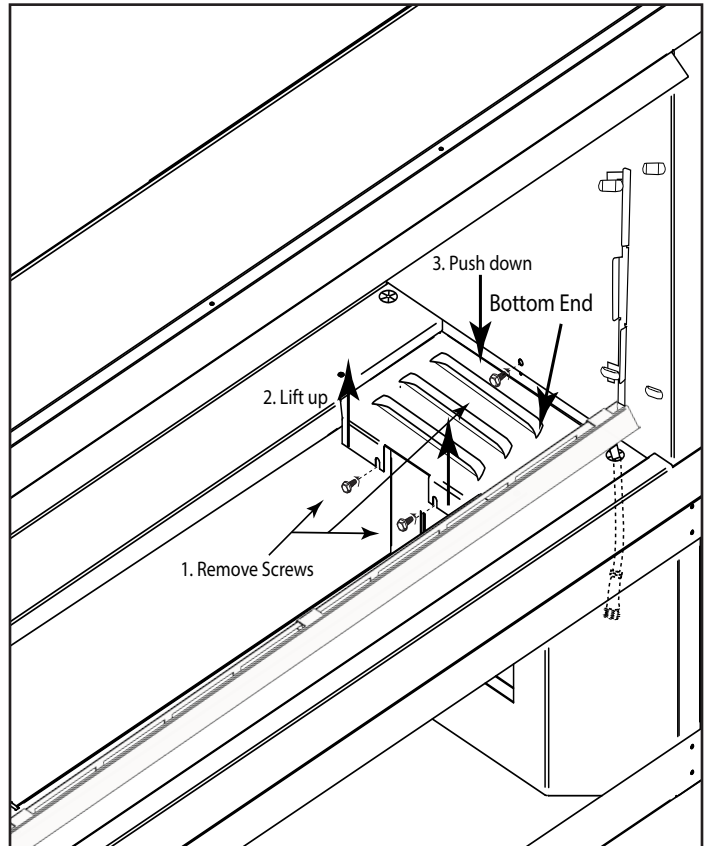
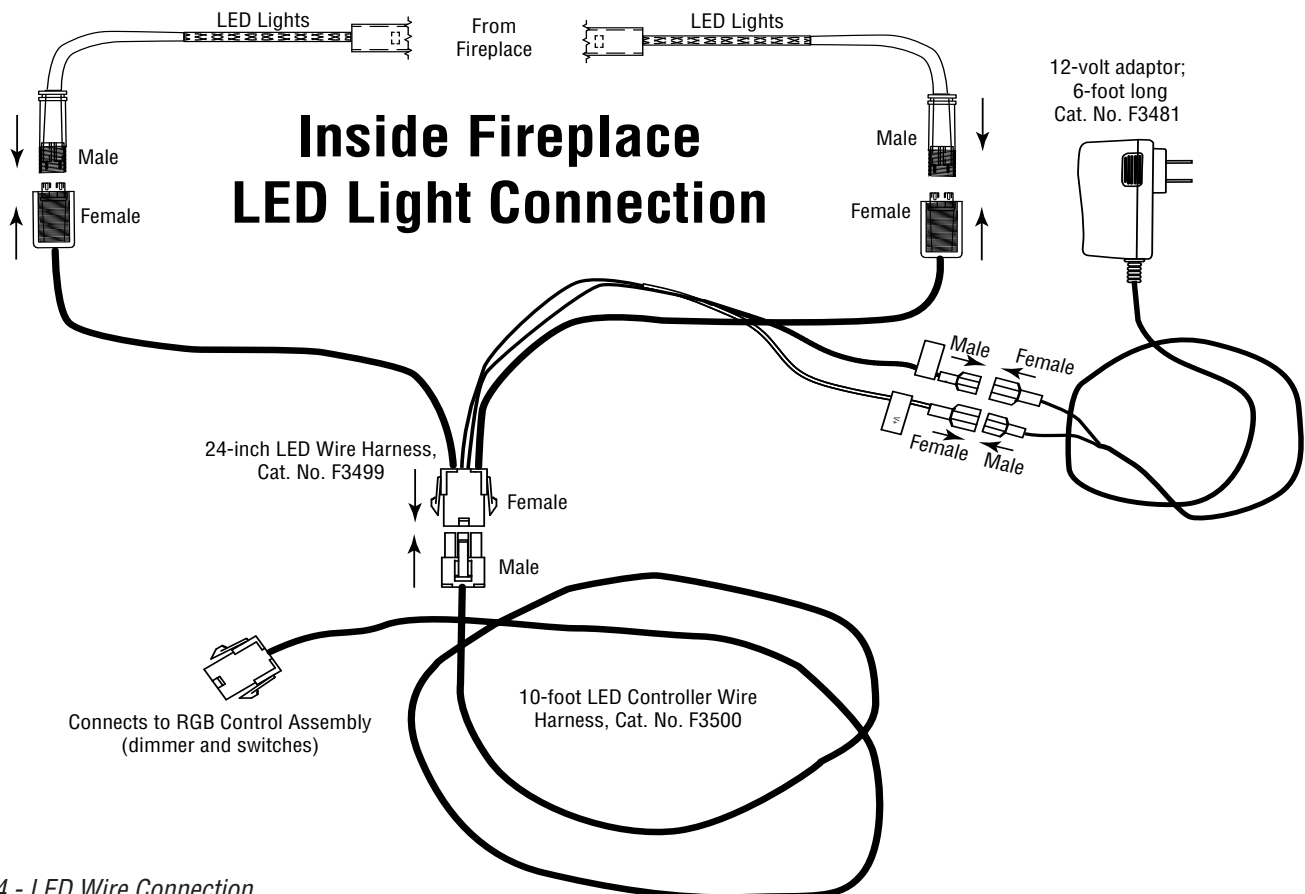

Figure 23 - Removing bottom end
Figure 24 - LED Wire Connection
Step 7: If needed, remove the screws from the “bottom end” of the burner pan area to provide additional room for wiring the LED lights. The “bottom end” fills the space between the burner pan and the fireplace side panel. It is held into place with three (3) screws. See Figure 23. First remove the two inside screws, then the screw securing the side wall. Lift up the area where the two screws were and push down where the single screw was, then lift the bottom end out of the fireplace.
Step 8: Using Figure 23 below, insert the LED channel assembly female connector part, Cat. No. F3499 (protruding through the wire grommets) to the LED male connector. The male end of the LED connector will only insert into the female connector in one direction. Once locked in position, screw the threaded cap of the female connector securely over the male connector. Note: If you are using one set of LED lights the other female connector Cat. No. F3499 will not be used. See Figure 24.
Step 9: Attach Cat. No. F3499 to F3500 using the molex connectors. After connecting the LED lights into the F3500 wire harness insert the 12-volt adapter 77102 with 1/4” terminals into the (red & black wires) of LED wireharness. Plug the 12-volt adapter into the 120VAC GFCI box with weather proof cover. See Figure 24, page 18.